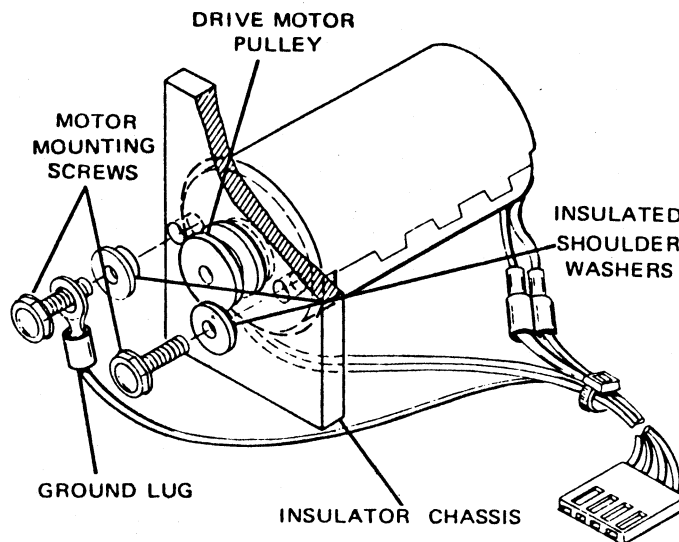

Figure 6-4. Drive Motor Ground Lug
- g. If the drive motor ground lug is secured by the left side motor mounting screw, run the screw through the ground lug and shoulder washer, and install (see Figure 6-4).